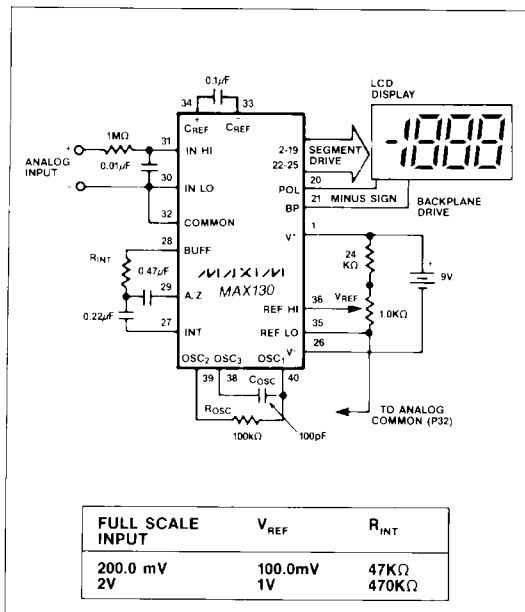
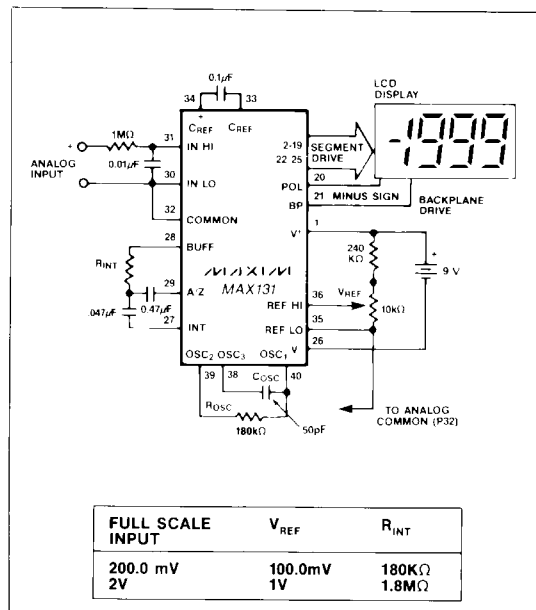

Figure 1. Maxim MAX130 Typical Operating Circuit, 3 Conversions per Second
Figure 2. Maxim MAX131 Typical Operating Circuit, 3 Conversions per Second
( $V^+ = 9\text{V}$ ,  $T_A = 25^\circ\text{C}$ ,  $f_{\text{CLOCK}} = 48\text{kHz}$ ; test circuit - Figure 1; unless noted)
(V+ = 9V, TA = 25°C, fCLOCK = 48kHz; test circuit - Figure 2; unless noted)
**Note 3:** Test condition is VIN applied between pin IN-HI and IN-LO through a 1MΩ series resistor as shown in Figures 1 and 2.
**Note 4:** 1MΩ resistor is removed in Figures 1 and 2.
Figures 1 and 2 show the basic MAX130 and MAX131 applications circuits. Note that the circuits for the MAX130 and the MAX131 use different values for the integration and oscillator components. The MAX130 can operate using the MAX131 component values, but the MAX131 will not operate using the MAX130 component values. The lower supply current device, the MAX131, must always use the higher value integrator resistor as shown in component value table in Figure 2. With a typical operating current of only 65µA, the MAX131 will operate for about 8500 hours when powered by a typical 550mAh alkaline 9V battery. The MAX130 will operate for 2200 hours with a 550mAh battery.
The MAX130/131 can easily be used with ±5V supplies. Connect  $V^+$  to +5V,  $V^-$  to -5V. If the voltages to be measured are referred to ground, then connect In Lo to ground. In most cases, Ref Hi and Ref Lo should be connected to a resistive divider string between  $V^+$  and Common, as shown in the standard application circuits of Figures 1 and 2. If Common is not used to generate the reference it can either be left floating or can be connected to ground. If the MAX130/131 oscillator is driven by 5V logic, or if the MAX130/131 LCD outputs drive 5V logic, then connect the Test pin to ground. If the MAX130/131 open circuit Test voltage is above ground, then connecting Test pin to ground will set the internal digital ground to approximately ground. If, however, the open circuit Test voltage is negative, then the internal digital ground voltage will remain negative, additional  $V^-$  supply current will be drawn, and the LCD segments will continue to swing